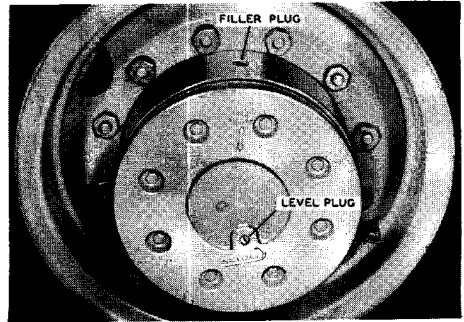

Figure 21
2. To fill the planetary gear housing with oil rotate the wheel so the filler plug opening is located at the top of the wheel. Fill the planetary housing to the level plug opening, Figure 21. Always replace level and filler plugs tightly.